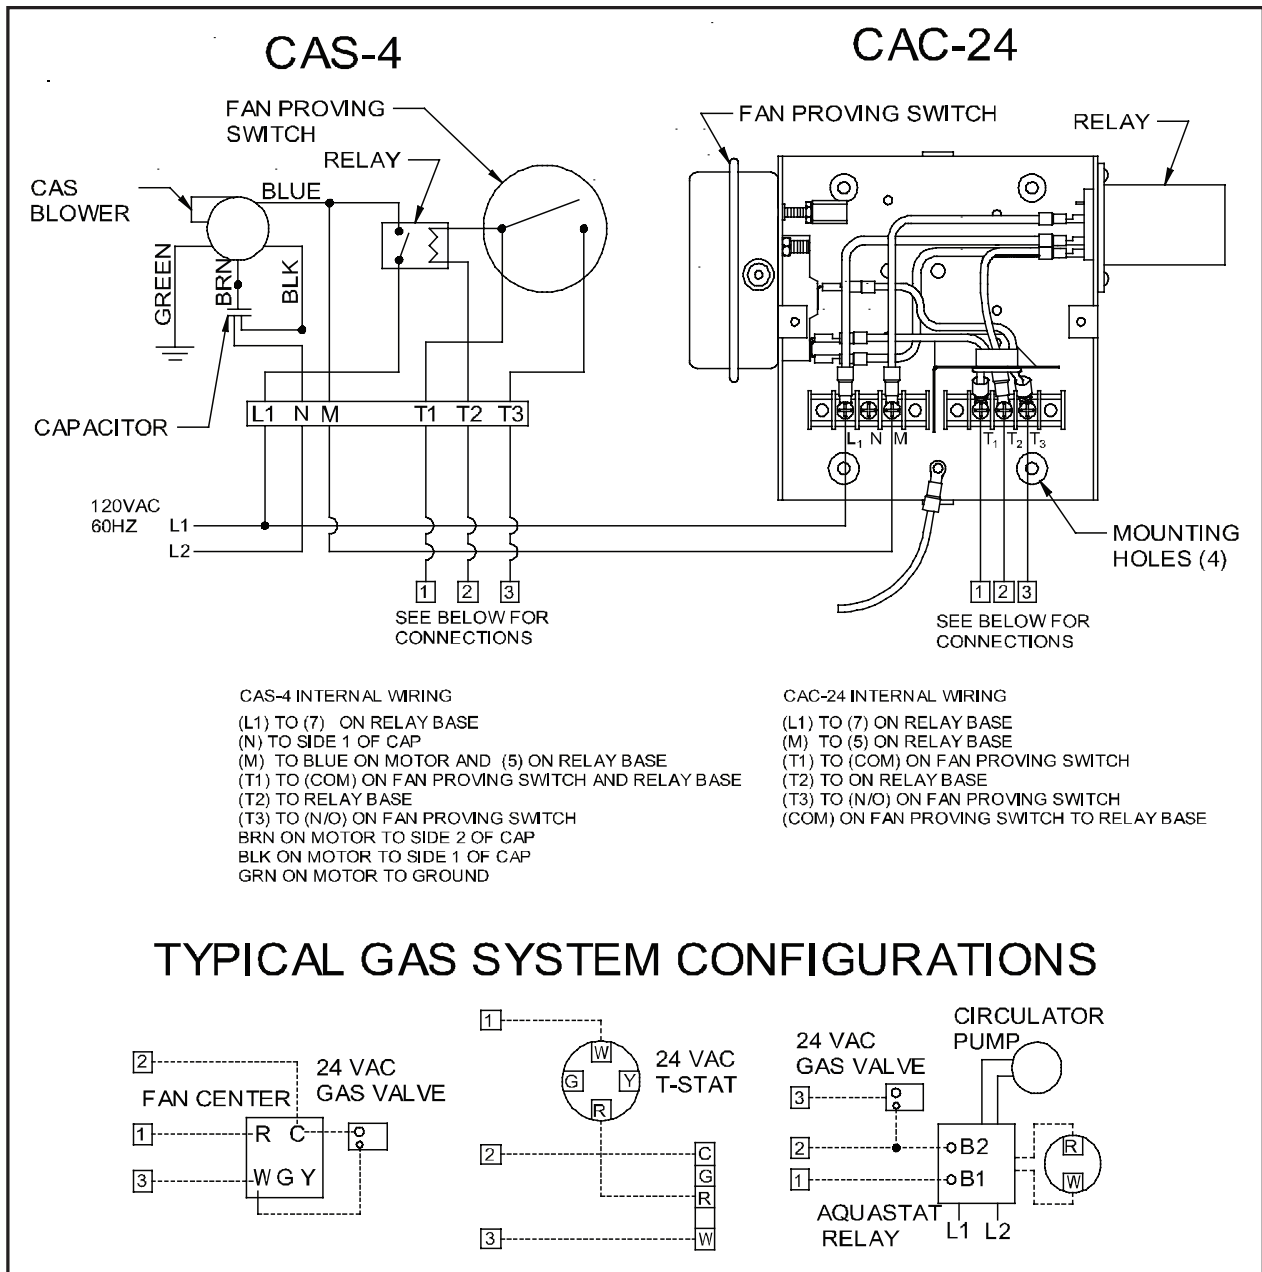

Figure 1
The junction box may be mounted anywhere that is convenient for routing the wiring and tubing. Mount the CAC-24 to a wall or floor joist using the four dimpled locations on the base of the box (See Figure 1).
Note: The unit must be mounted so the draft proving switch is vertical as shown in Figure 1. The CAC-24 should be placed close enough to the CAS unit to route the provided 10 foot long plastic tubing from the draft proving switch to the exposed tubing on the CAS. If mounting further away, the installer must provide any necessary fittings and extra tubing.
1. Remove one knockout from the junction box on the fan proving switch side. Install line voltage power supply wires to the CAS unit as shown in Figure 1.
2. Remove one knockout from the side of the junction box opposite the fan proving switch. Run line voltage wiring to the appliance controls as shown in Figure 1. Refer to the appropriate gas system configuration diagram for your specific appliance.